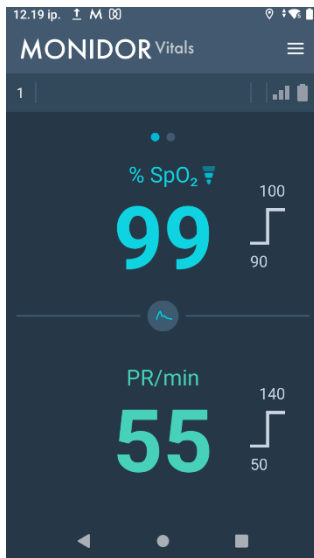

Figure 4 View of the access point
4. The access point displays the values measured by the pulse oximeter (Figure 4) and sends them to the Monidor Vitals cloud application.